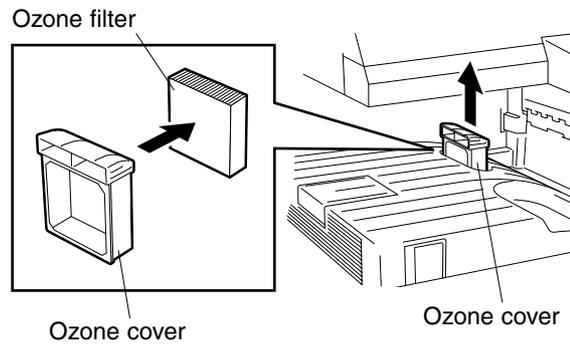

Fig. 2-6-10
4. Detach ozone cover. (See Fig. 2-6-10)